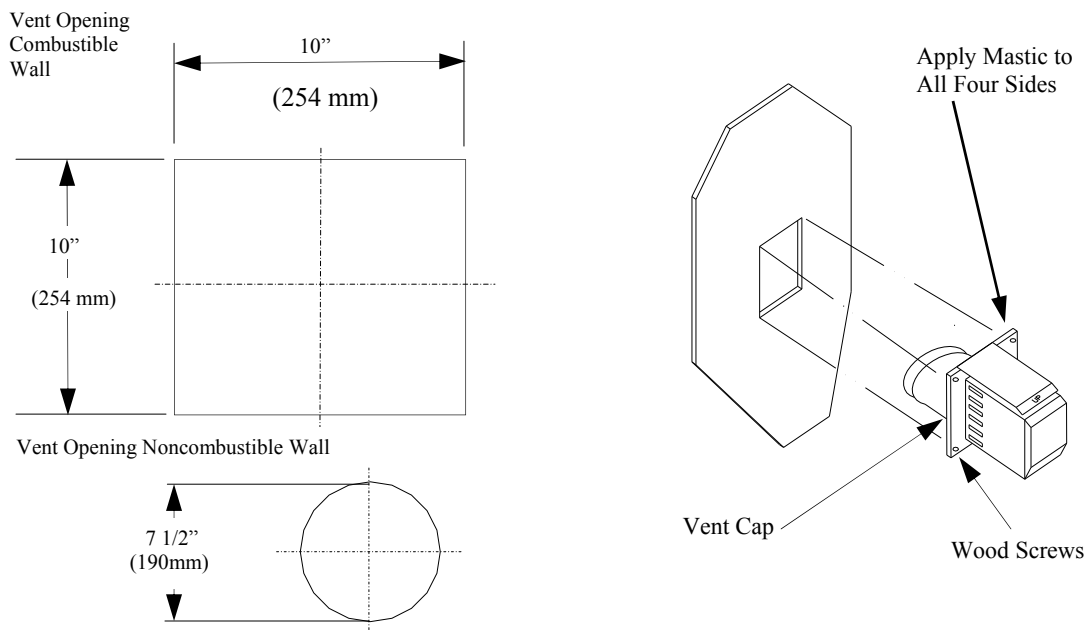
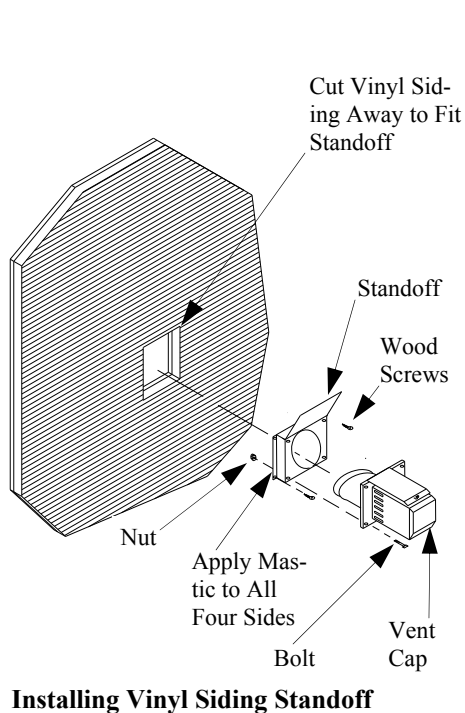

Figure 6
Figure 7
4. With the pipe attached to the appliance adapter, slide the appliance into its correct location, and mark the wall for a 10" x 10" square hole. The center of the square hole should line up with the centerline of the horizontal pipe as shown in Figure 6. Cut and frame the 10" square hole in the exterior wall where the vent will be terminated. If the wall being penetrated is constructed of non-combustible material, e.g., masonry block or concrete, a 9" diameter hole is acceptable.
5. Position the horizontal vent termination in the center of the 10" square hole, and attach to the exterior wall with the four wood screws provided. Before attaching the Vent Termination to the exterior wall, run a bead of non-hardening mastic around its outside edges, so as to make a seal between it and the wall. (See Figure 7.) The arrow on the vent cap should point up. (See Figure 6.) **NOTE:** Ensure that proper clearances to combustible materials are maintained.
◆ **Venting termination shall not be recessed into a wall or siding.** For structures with vinyl siding, a Vinyl Siding Standoff (Part 950) should be installed between the vent cap and the exterior wall. (See Figure 7.) Attach the Vinyl Siding Standoff to the Horizontal Vent Termination. The Vinyl Siding Standoff prevents excessive heat from possibly melting the vinyl siding material.